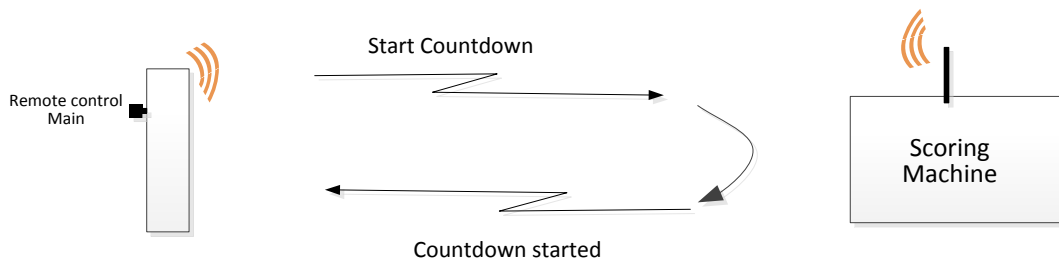
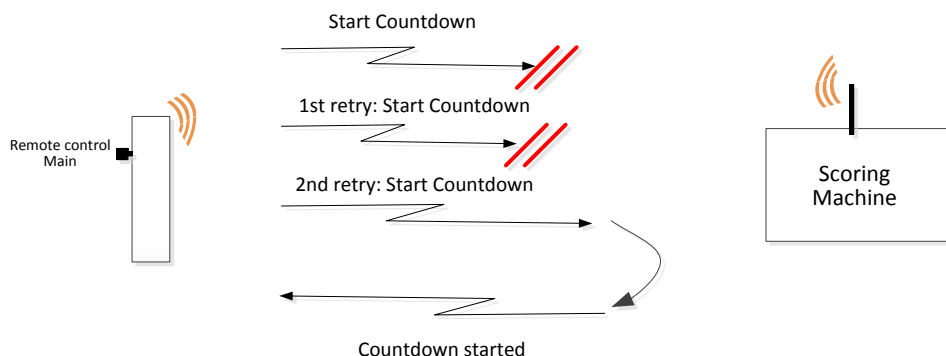

Figure 2: Message with acknowledgement
Figure 3: The 2nd retry has been acknowledged
- The risk of collision with another wireless system exists and is not solved by the acknowledgement communication (*Figure 2*). In addition, if two remote controls send at the same time a message, the first but also retries communications will be perturbed. Software routines must be implemented to avoid this risk (random temporization - *Figure 3*).